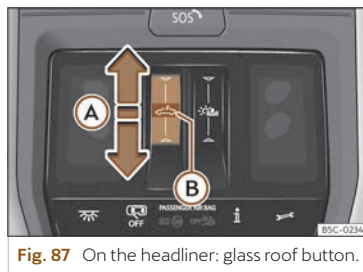

Fig. 87 On the headliner: glass roof button.
- Automatic movement: slide your finger back over the functional area ☞ >>> Fig. 87 (A).
- Before approx. 5 seconds after activation of the anti-trap function, slide your finger forward over the functional area ➡ >>> **Fig. 87** (A) and keep pressed until the sunroof is fully closed.